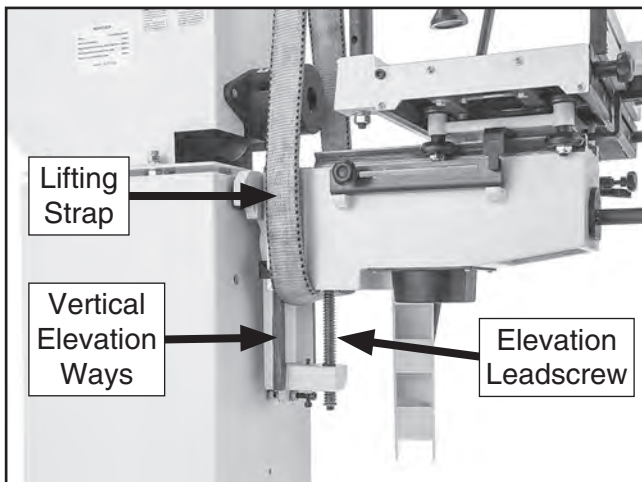

Figure 6. Lifting strap placement.
1. Thread lifting strap between elevation leadscrew and vertical elevation ways, as shown in **Figure 6**.